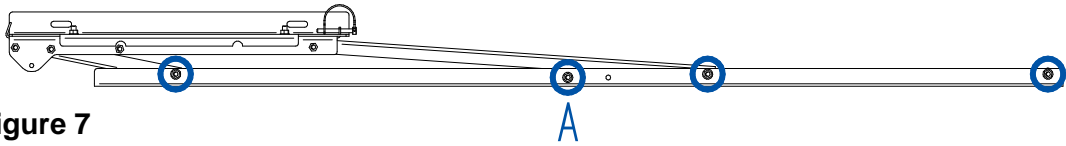
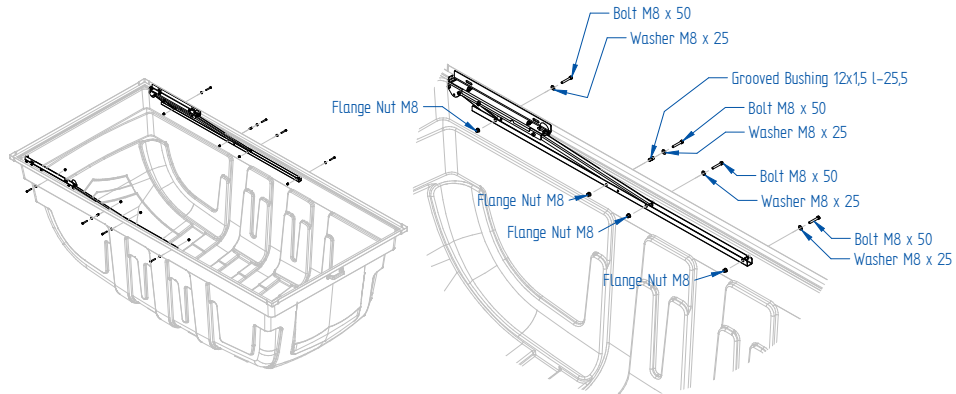

Figure 7
Figure 8
7.1. On up to **300 series**, fasten the **right** and **left** hinge to the plastic cover using M8x50 bolts + M8x25 washers + M8 flange nuts. At the position A, also install a bushing (**Figure 7**). Use washers under bolt head and flange nuts on the inside (**figures 8**)